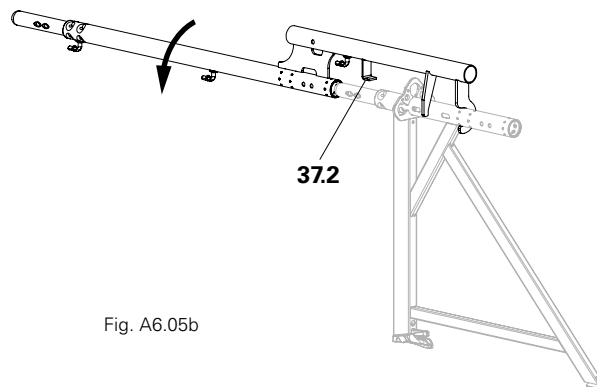
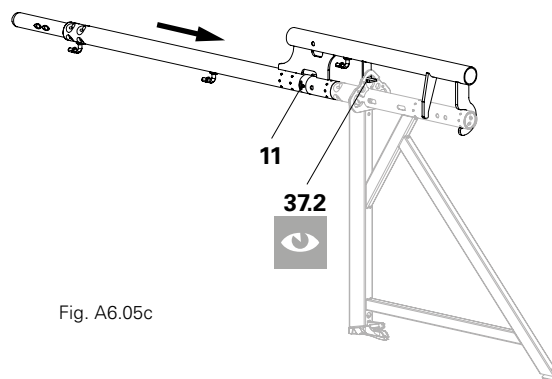

Fig. A6.05b
Fig. A6.05c
2. Turn the Protection Wall Post EPS-2 straight and fit it onto the spigot of the Console Bracket ECM and hook the hook block (**37.2**) into the ledger-to-ledger coupler of the rosette from above. (Fig. A6.05b + Fig. A6.05c)
→ The protection wall post is now pre-assembled. (Fig. A6.05c)